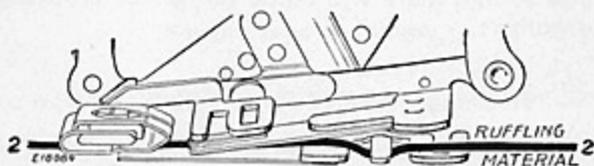

Fig. 95. Correct Position for the Material
- (2) When the desired space is made, set the projection D in either of the slots "6" or "12."
- (3) Insert the material to be pleated between the two blue blades and under the separator guide, Line 2, Fig. 95.